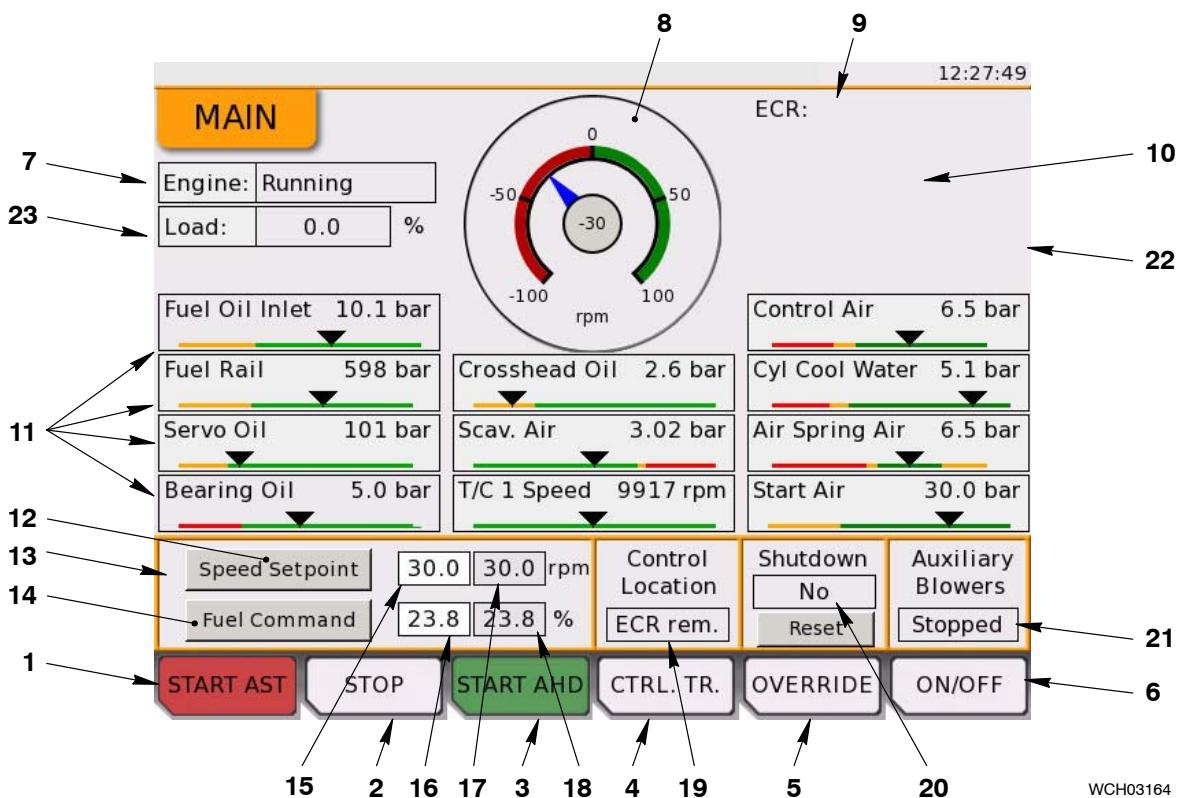

Fig. 5: MAIN Page
The MAIN page (Fig. 5) shows:
- 1) To operate the engine from the main page, first make sure that the LDU-20 is the active control location (see 9 and 19, Fig. 5). If necessary, select the CTRL.TR button to transfer control.